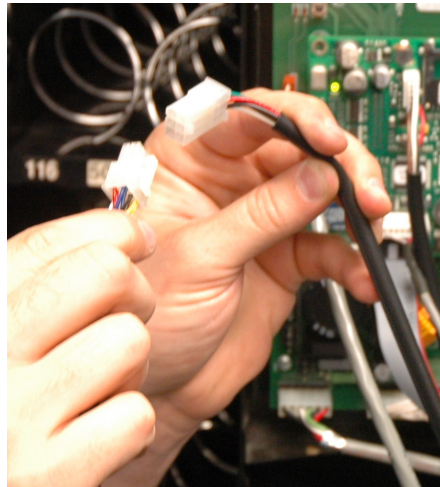

Figure 9
7) Insert the MDB power harness between the existing MDB line (Figure 9)